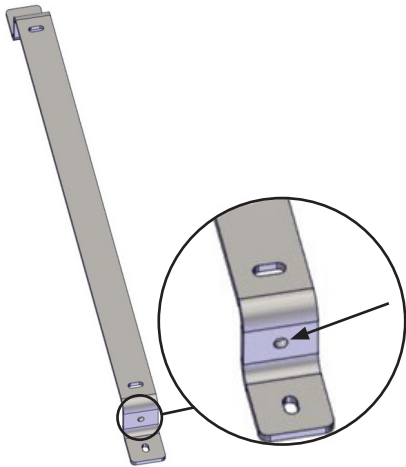

Figure 4
14. The bracket must be installed with the hole on the bend facing downward (Figure 4).